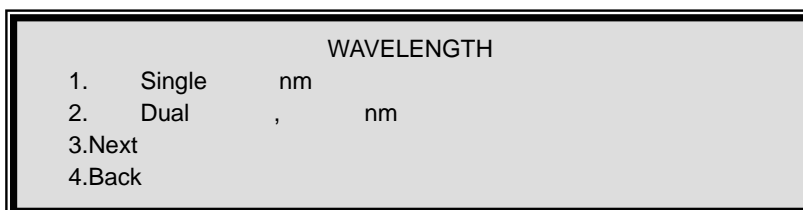

Fig. 6: Wavelength
3. Press **Enter** key again when the cursor stays on **Next**, then it will go to the sub menu (Fig. 6);